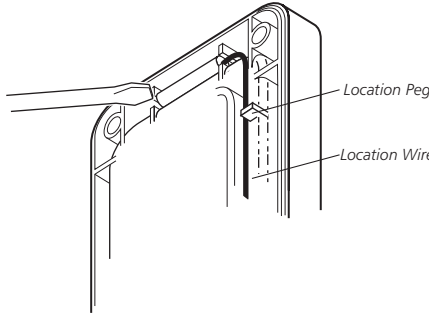

Figure 8
14. The neon locator wires must be securely located in the peg provided. Refer to Figure 8.
2. Use a flat bladed screwdriver to remove the neon locator. Refer to Figure 8.